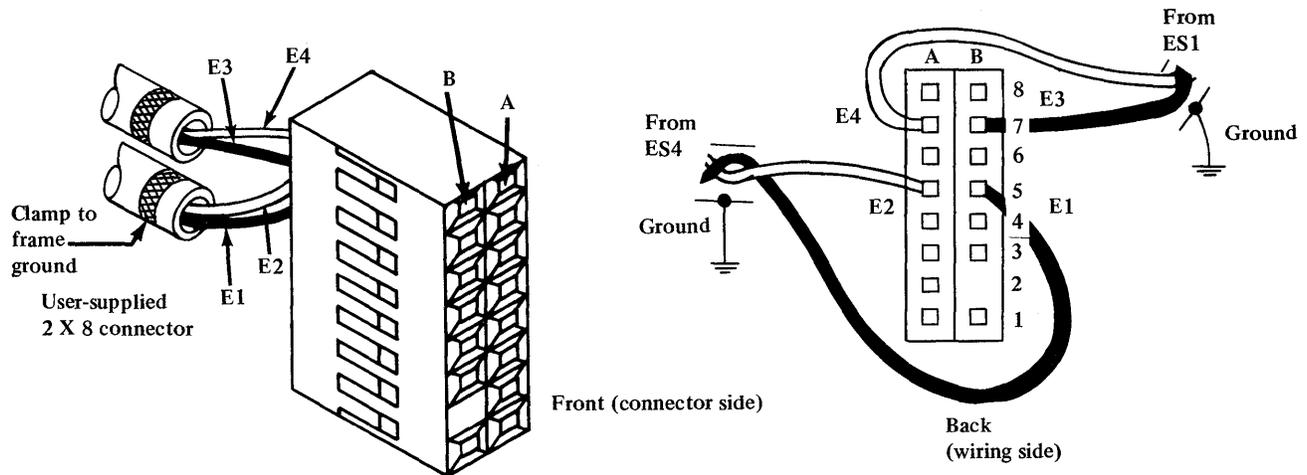

Figure 3-24. Loop connector positions
Figure 3-24 shows the loop connector. Use the following procedure to install each loop connector:
- ( ) Push wires E1 and E2 into the loop connector from the rear. Ensure that the loop cable labels match the loop connector positions, as shown in Figure 3-24.
- ( ) Push wires E3 and E4 into the loop connector from the rear. Again, ensure that the loop cable labels match the loop connector positions, as shown in Figure 3-24.